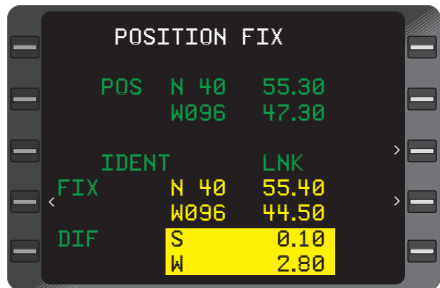

Figure 3-179
- d. **ENT** Key - DEPRESS. The **DIF** display shows the direction and distance in degrees, minutes and hundredths of minutes from the **FIX** position to the composite position. (Figure 3-179)